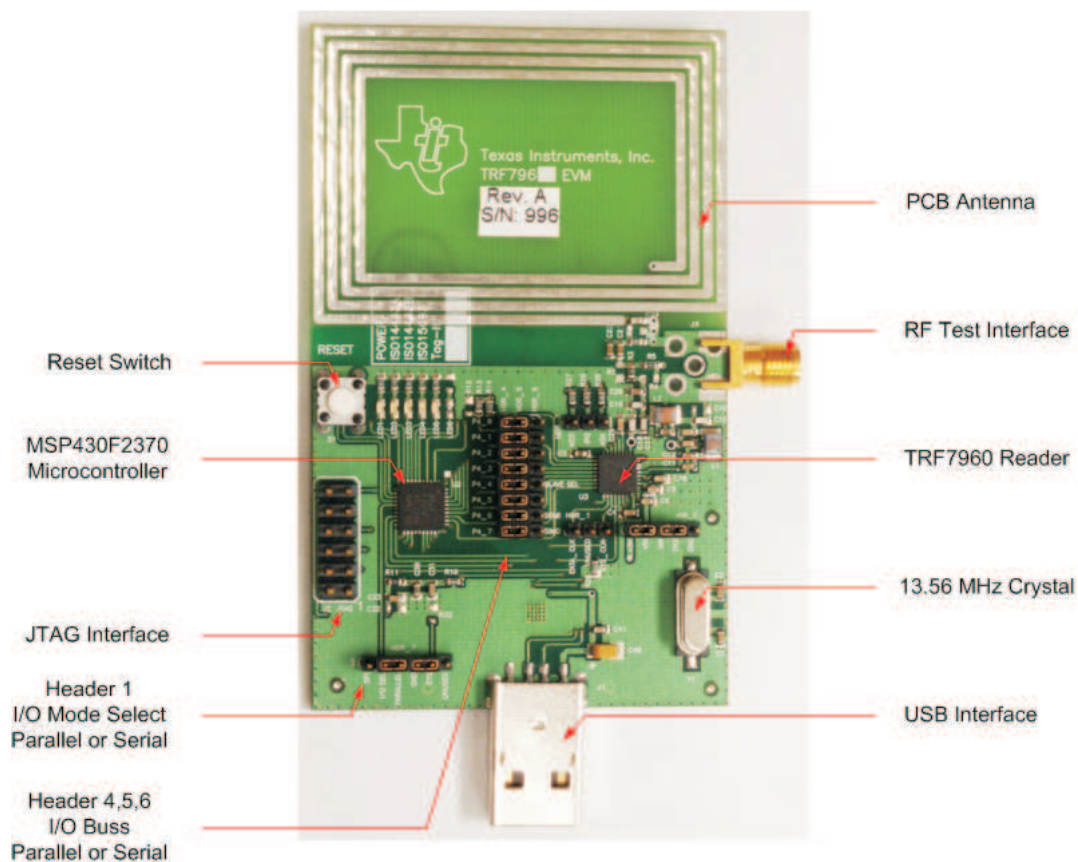

Figure 2-2. TRF7960EVM Rev A
- A faster and lower-power MSP430 on board. The TRF7960EVM (Rev. A, Figure 2-2) uses the state-of-the art MSP430F2370 with maximum speeds up to 16 MHz and is available in a tiny 40-pin QFN package.
Shown in Figure 2-2 is a TRF7960 EVM Rev A. The board allows for either a thru hole or edge mount SMA connector for reader or antenna testing. Figure 2-2 shows the board assembly configured for a parallel buss (HDR_4 connected HDR_5). Header 1 is used to inform the microprocessor what I/O buss is being implemented.